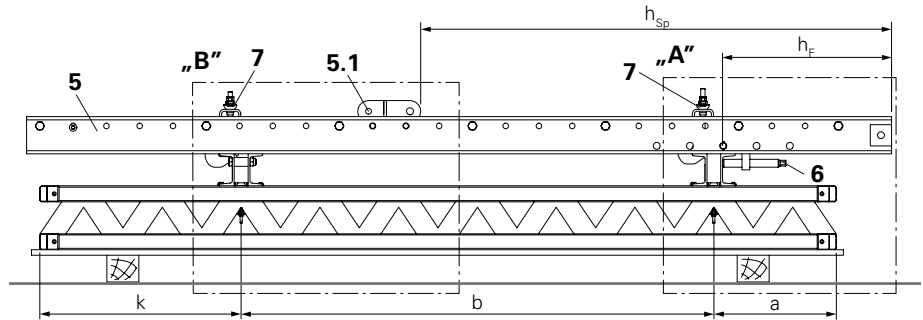
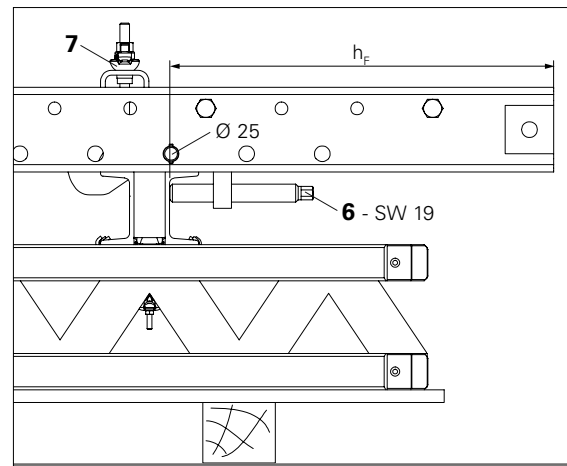

Fig. A3.01
Fig. A3.01a
- Place Strongback (5) on the steel waler of the formwork and align roughly at height h_F . (Fig. A3.01)
- Install Height Adjusting Unit (6) using Bolts $\text{Ø } 25$. Ensure that there is sufficient adjusting range available for required formwork adjustment.
- Turn Spindle (SW 19) of the Height Adjusting Unit (6) against the U-profile of the Strongback and adjust to height h_F . (Fig. A3.01a)
- Bring Spindle Connector (5.1) to height h_{sp} . (Fig. A3.01 + A3.01b) For this, possibly offset one spacer (5.2) of the Strongback:
- Fix Strongback on the formwork walers with Waler Fixation (7). (Fig. A3.01a)
- Securely fix Waler Fixation (7) using wingnut. (Fig. A3.01a)